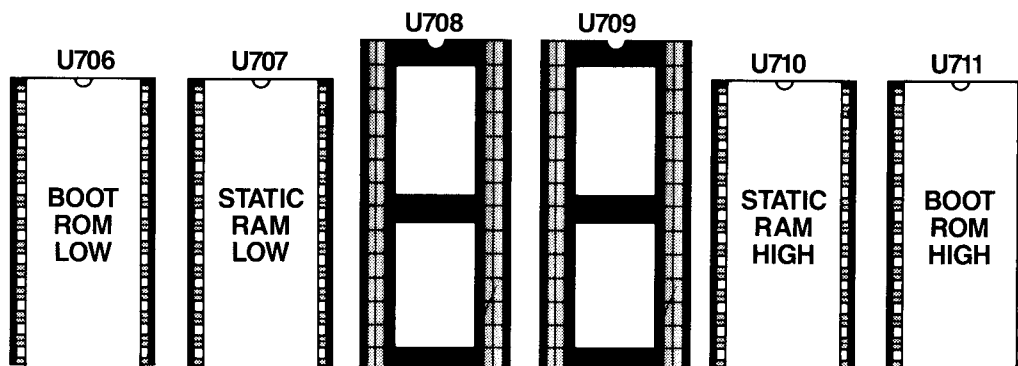

Figure 20. Rev 04 ROM and RAM Locations
4. Locate the Boot ROMs on the Processor Board at U706, ROM0L, and U710, ROM0U. Remove the ROMs at these locations if they are not version 0.5 or later. Place a ROM labeled CC 0.5 H or later in location U706 and the ROM labeled CC 0.5 L or later in location U706 on the Processor Board. (See Figure 20.)
6. Place the ROM labeled MACSbug 2.0 L in location U709. Place the ROM labeled MACSbug 2.0 H in location U708 of the Processor Board. The MACSbug ROMs are 24-pin devices. The sockets should have the top four pin locations unused (i.e. pins 1,2,27 and 28). Figure 20 depicts proper installation.